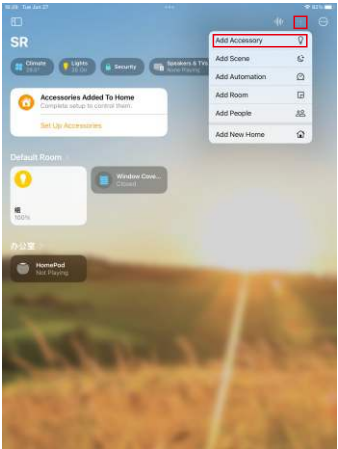
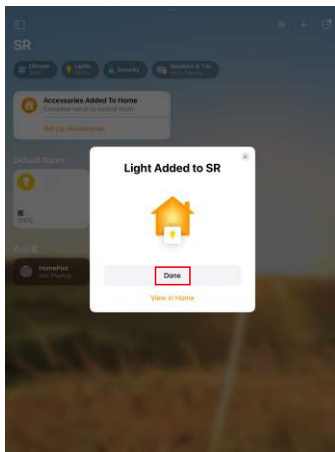

Figure 8
Figure 16
Step 4: Add the Matter thread dimmer to the Apple Home app by scanning the QR code sticker on the dimmer as shown in **Figure 8** to **Figure 16**.